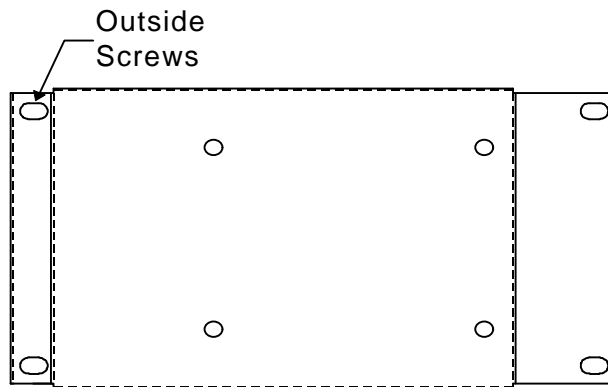

Figure 3
2. Turn on power. Run an upside down bill into the acceptor at least 10 times to warm the electronic circuitry. Remove the cover to the CPU board on the note acceptor. This will be done in one of two ways, depending on the style of the note acceptor. Figure 3 shows a 500 note acceptor with the D.C. board located on the right hand side. Remove the four outside phillips screws and swing this board down to reveal the CPU board.